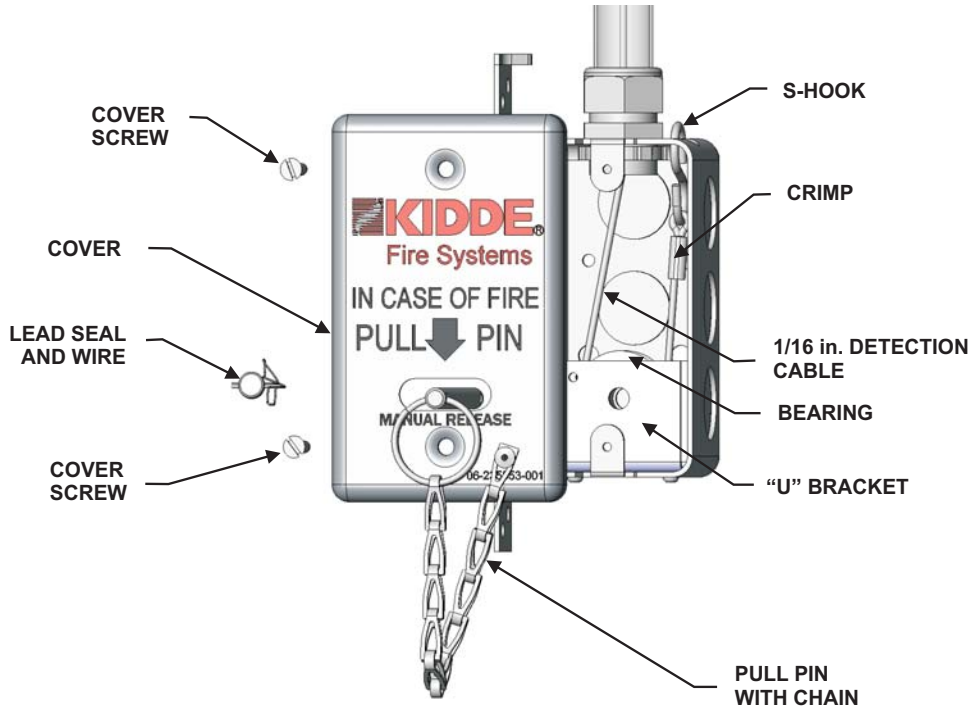
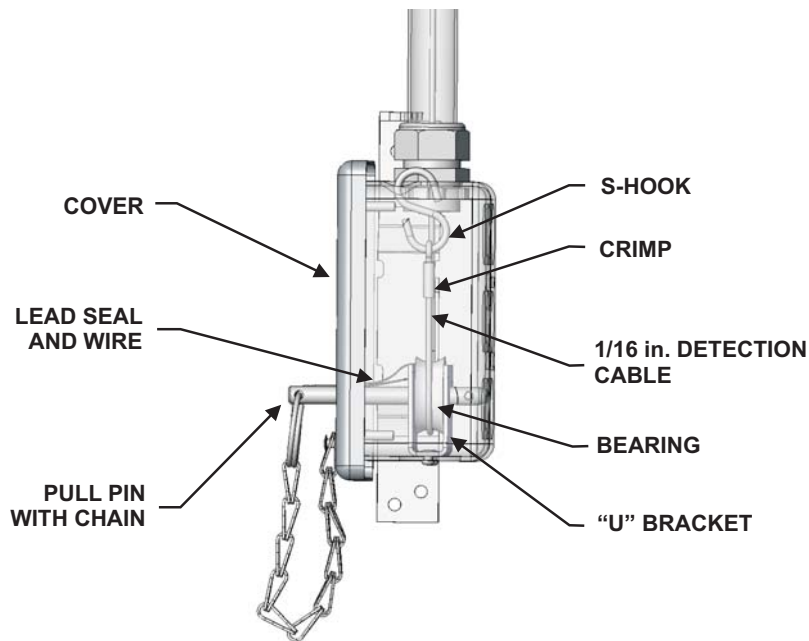

Figure 4-60. Recess Mounted End-of-Line Remote Manual Control, P/N 87-120050-001
Figure 4-61. Recess Mounted End-of-Line Remote Manual Control (Side View), P/N 87-120050-001
14. Attach the S-hook up and through the 3/32-inch (2.5 mm) diameter hole on the upper right side of the control box as shown in Figure 4-60 and Figure 4-61.